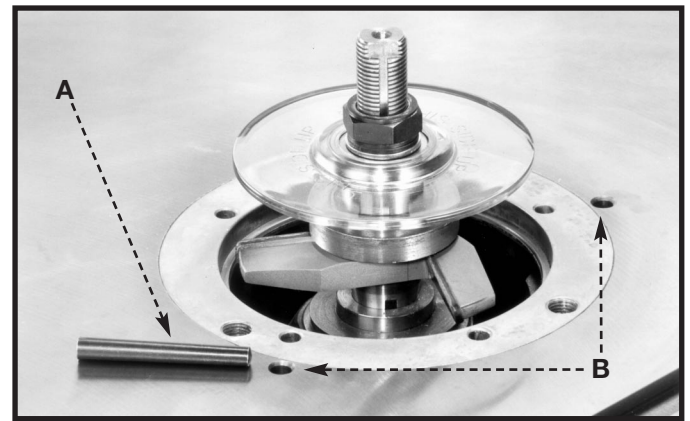

Fig. 34
1. The machine is supplied with a tapered starting pin (A) Fig. 34, which is used as a support when starting the cut. The starting pin (A) is placed in one of the tapered holes (B) in the table.